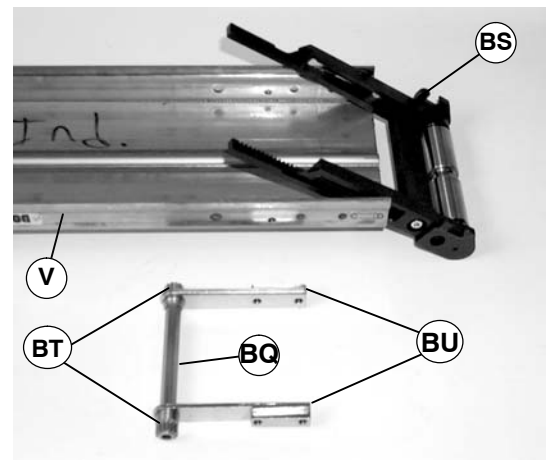

Figure 44
5. Remove two pinion ends (BT of Figure 44), clamp blocks (BU), hex pin (BQ) and tail assembly (BS) from conveyor (V).